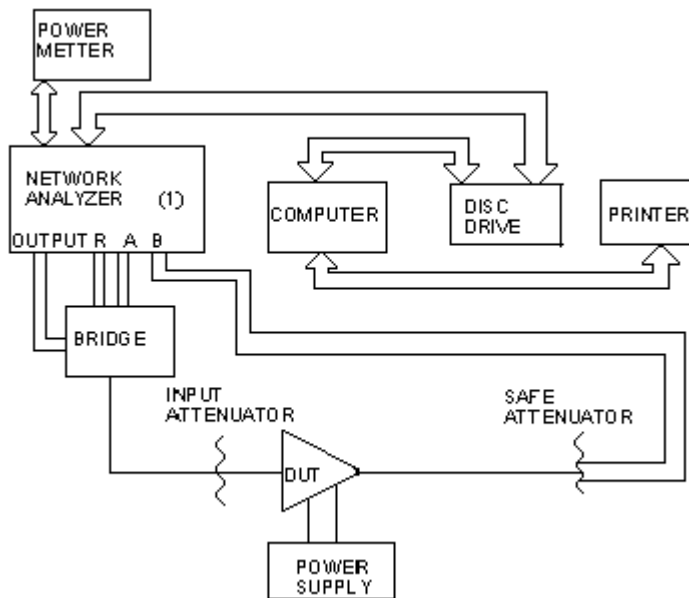

Fig. 6 Automatic compression measurement set-up of an amplifier.
Figure 6 shows the complete set up for compression measurement of an amplifier using HP8753A automatic vector network analyzer. Step by step measurement of compression is as follows:
4. Connect DUT as shown in figure 6. Set up instrument for CW frequency and power sweep. Apply power sweep. Read R & B channel powers. Apply correction factors to determine input and output powers as described above. Compute gain. Fine the output power at which gain drops by a dB from the lowest power. If 1 dB point is not found increase drive level Repeat measurement. If drive levels at low and at 1 dB compression point are less than 10 dB decrease lower end of drive level, repeat measurement.